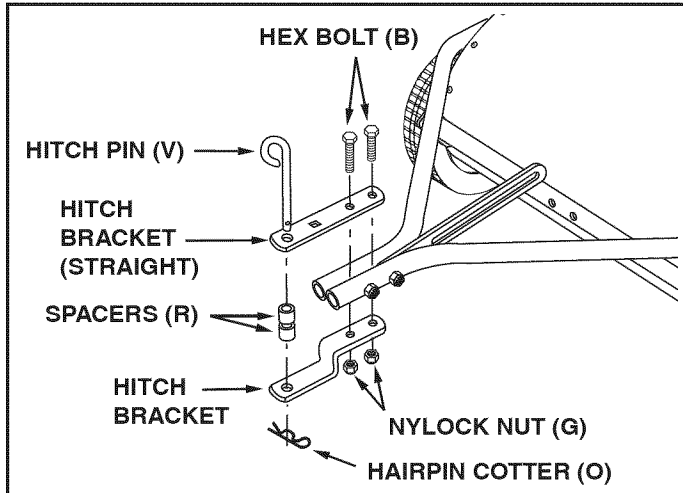

FIGURE 3
- Assemble the bent hitch bracket to the bottom and the straight hitch bracket on top of the hitch tubes. Fasten with two hex bolts (B) and two nylock nuts (G) as shown in figure 3. The bolts should straddle the front hitch tube bolt. **Do not tighten yet.**
- Assemble the hitch pin (V), two spacers (R) and the hairpin cotter (O) to the hitch brackets. See figure 3.